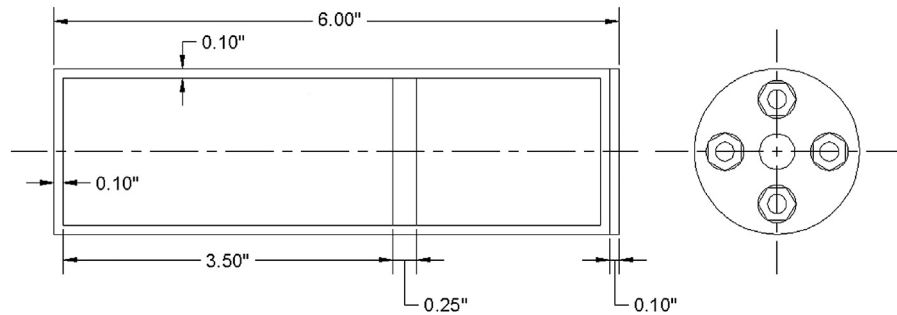

FIGURE 8.28
- Step 8.** Trim or fillet the main vertical guideline and continue offsetting, based on the given geometry, to “sketch out” the basic outline of the shape, as seen in Figure 8.28. Do not yet add dimensions; they are for construction only.